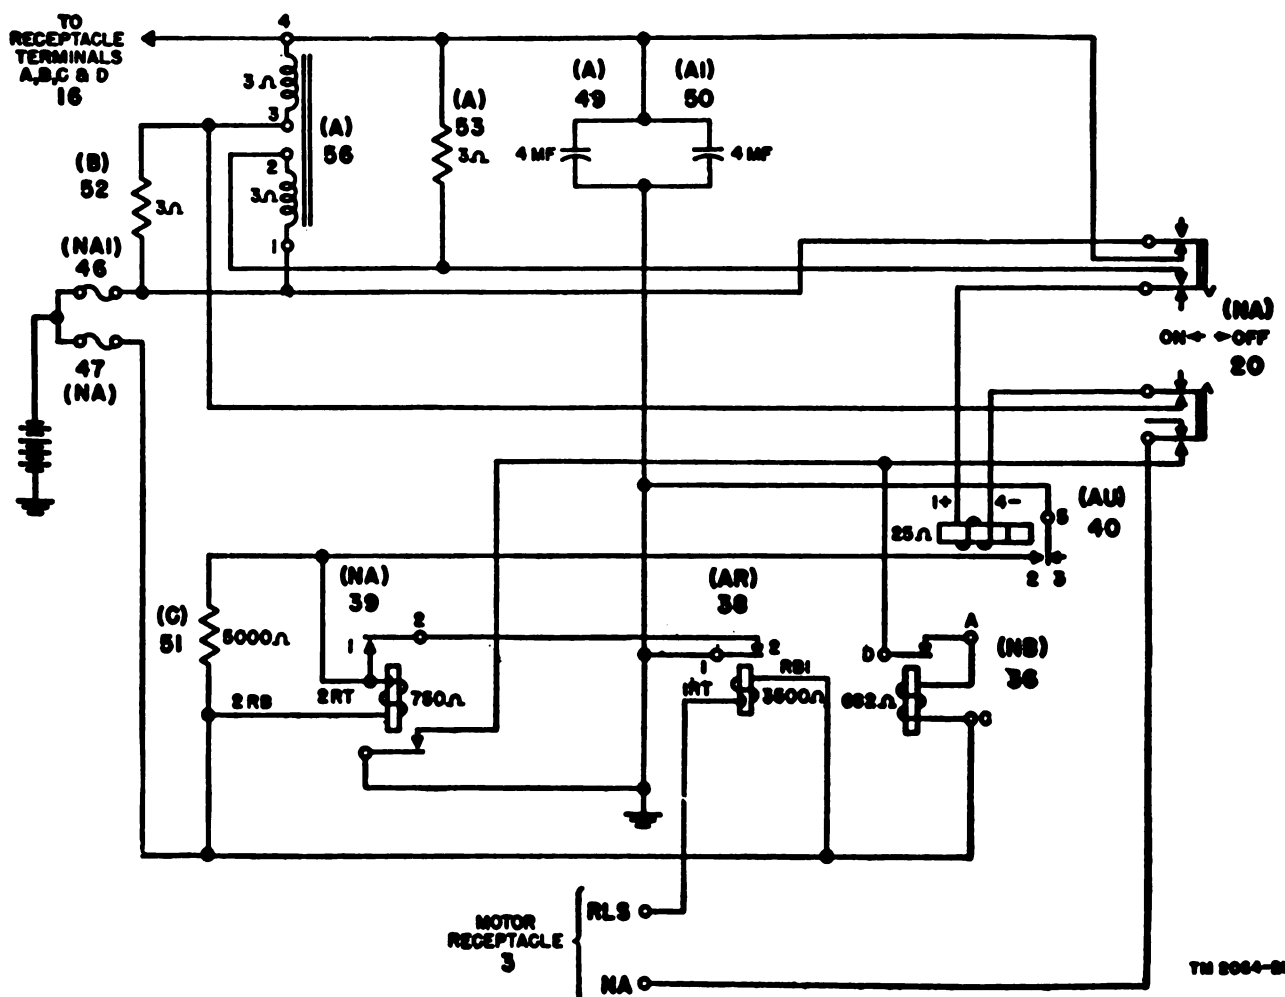

Figure 24. Night alarm circuit, schematic diagram.
The night alarm circuit (figs. 23 and 24) provides an audible signal on calls made to, or from, any one of a possible maximum of four associated switchboards. The (NB) night bell (36) may be rung from either one of two circuits: the magneto line connection to terminal (NA) of receptacle (3), and the common battery line circuits through terminals A, B, C, and D of receptacle (16) (fig. 24).
- (1) When a drop shutter on an associated switchboard magneto line is operated, the (NB) night bell (36) rings through the following circuit: Ground is sup-